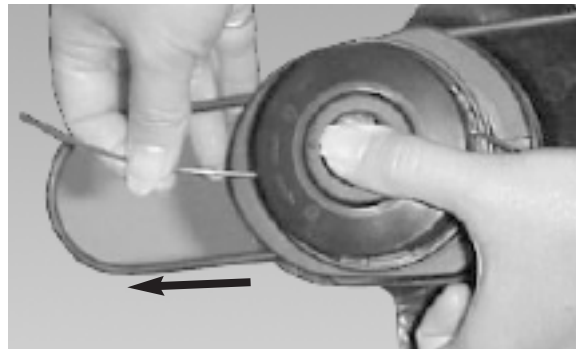

Fig. 9
1. When starting the string-trimmer for the first time, check that the nylon wires touch or pass over the wire-cutting blade. If they are not long enough, press the button and, at the same time, pull the nylon wires. (Fig. 9)